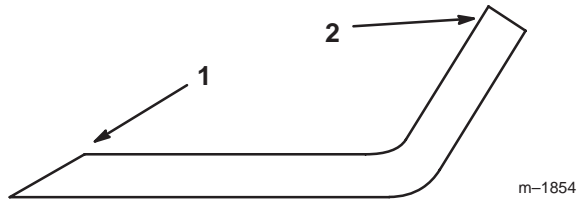
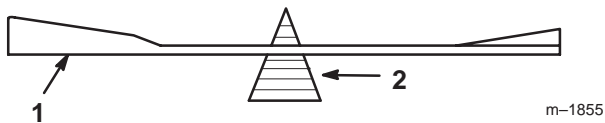

Figure 37
Figure 38
1. Use a file to sharpen the cutting edge at both ends of the blade (Fig. 37). Maintain the original angle. The blade retains its balance if the same amount of material is removed from both cutting edges.
2. Check the balance of the blade by putting it on a blade balancer (Fig. 38). If the blade stays in a horizontal position, the blade is balanced and can be used. If the blade is not balanced, file some metal off the end of the sail area only (Fig. 37). Repeat this procedure until the blade is balanced.